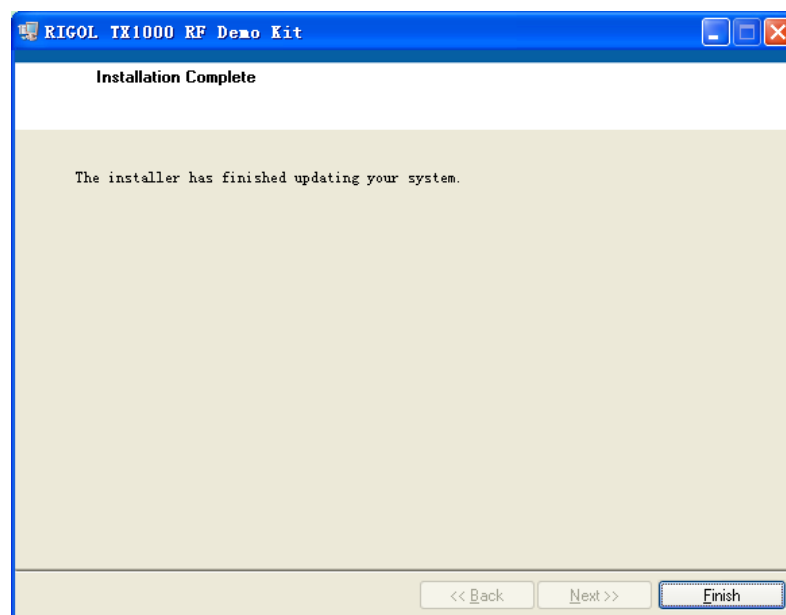

Figure 8 Installation Completion
7. After the installation process (omitted) finished, the interface as shown in figure 8 is displayed and click **Finish** to complete the installation.